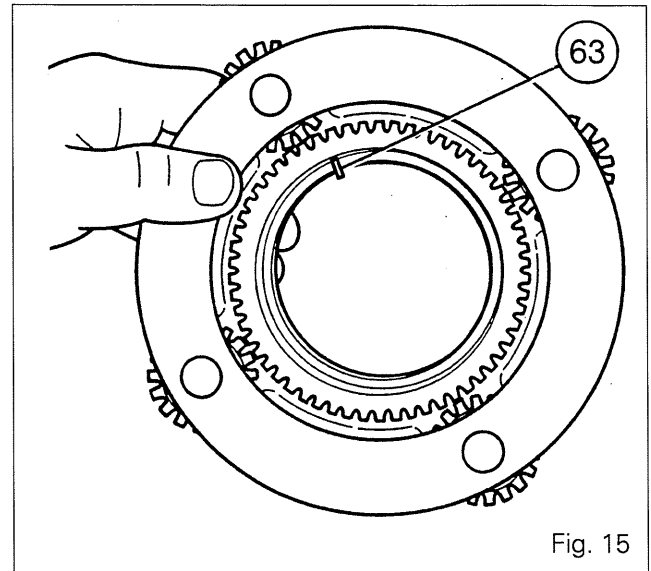

Fig. 15
25. Remove the circlip (55). Remove the planetary carrier bearing (57) and the spacer (56).
26. Separate the secondary planetary carrier (39) from the primary planetary carrier (28).
27. Remove the retaining ring (60) and the bearing (58).
28. Put the secondary planetary carrier in a vertical position. Tapping it lightly on a wooden block, remove the needles (63) (Fig. 15). Separate the planetary carrier from the primary sun gear (64), with the ring (62) and the deflector (75).